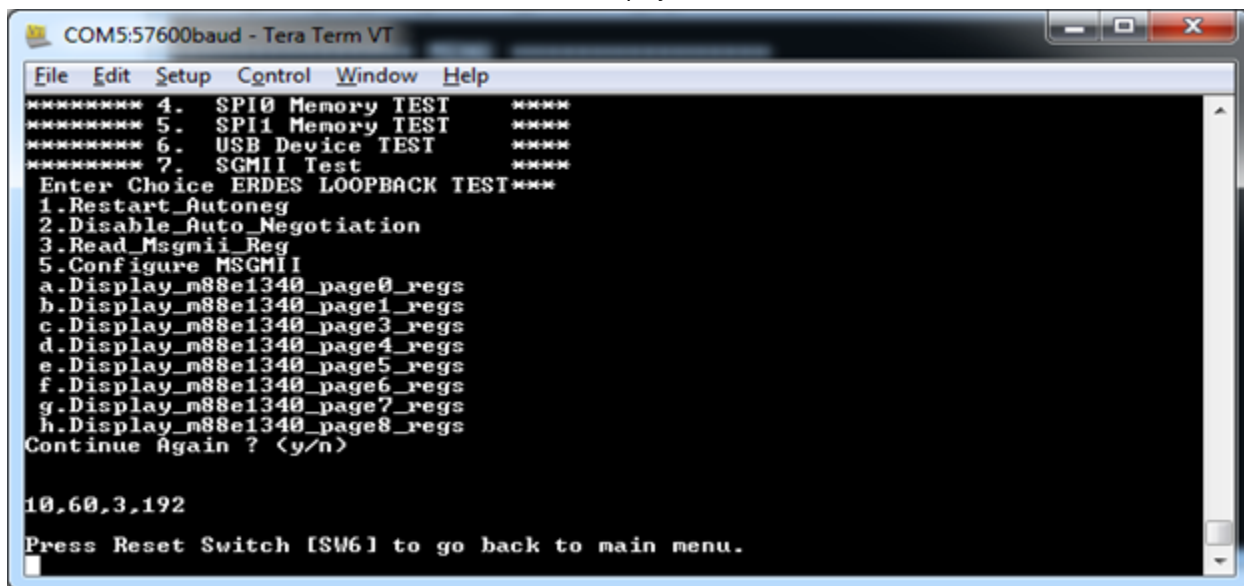

Figure 38 · SGMII Test Passed
- c. A confirmation message is displayed, Press n twice. Refer to Figure 38. When the test is passed, the IP address of the Host PC is displayed.